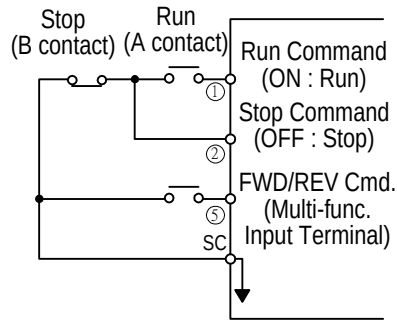

Figure 38 3-wire Mode Connection Diagram
- Under 3-wire initialization mode (Sn-03= 8 or 10 or 12), the Multi-Function Input Terminals ⑤~⑧ have setting “00”, the inverter will be in 3-wire mode operation. As shown in Figure 38, the Forward/Reverse change mode is set at the terminal ⑤.